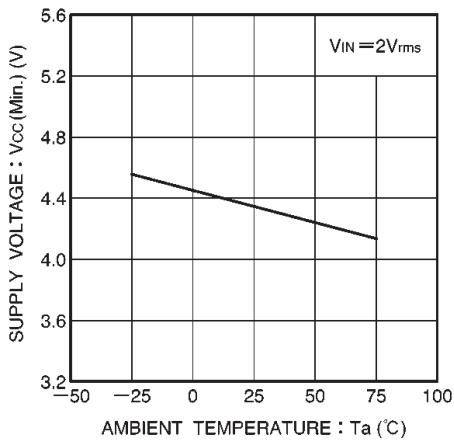

Fig. 6 16th point lighting limit supply voltage vs. ambient temperature
(1) Adjust the potentiometers  $VR_1$  and  $VR_2$  (connected to pins 1 and 3) to adjust the 0dB input level and the dispersion of ch1 and ch2.
(2) The temperature characteristic for the lighting limit for the 16th LED is shown in Fig. 6.